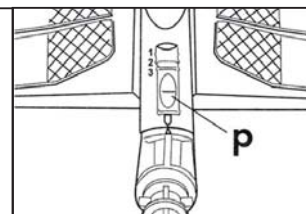

Fig. 15
- rotate the elbow by 180° until the two arrows (brush - elbow) line up (Fig. 15);